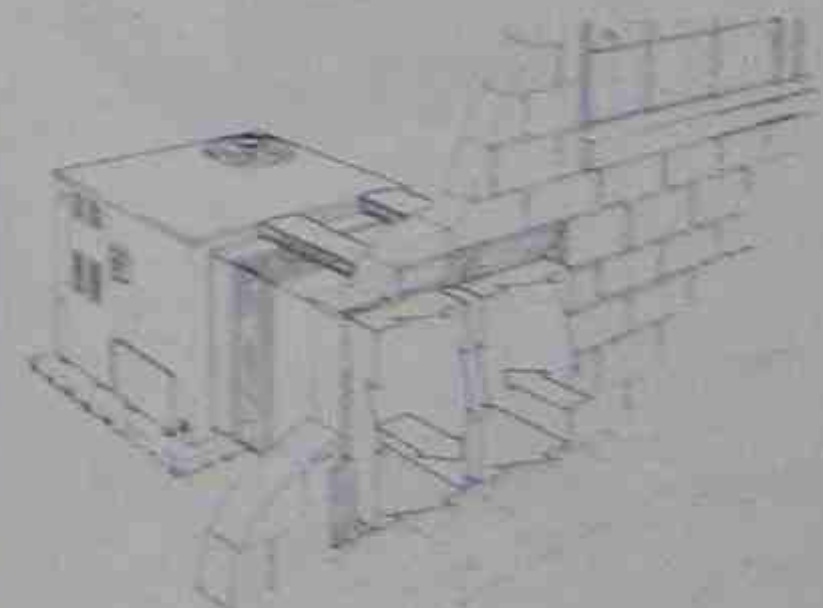

Figure 40-13. Air-to-air package unit. Courtesy Climate Control
1. Air to air is similar to a window air conditioner except that it has two motors. This unit will be discussed because it is the most common. The term air to air is used because the refrigeration unit absorbs its heat from the air and rejects it into the air. Figure 40-13.